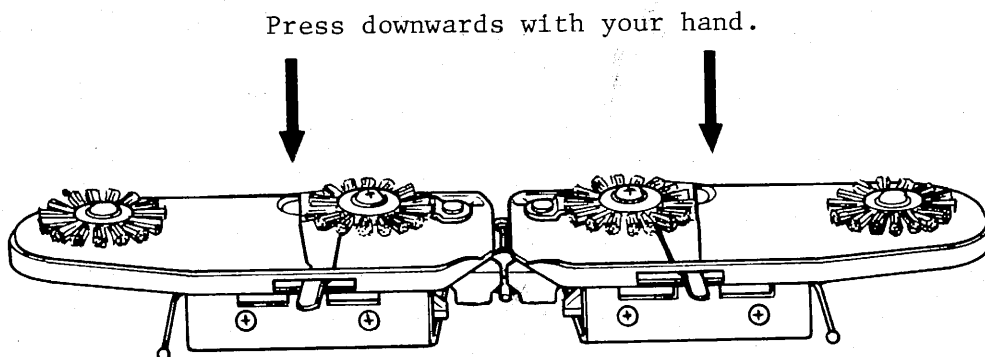

Fig. 97-1
- (1) Push up as many as sixty Needles to D position and set the right and left Russel Lever at I
- (2) Check how the edge of Fabric Presser contacts Needles while moving Carriage to right and left.
- (3) When the edge of Fabric Presser is not in contact with Needles, remove Arm from Carriage, place the Arm with its face downward as shown in Fig. 97-1 and press downward with your hand.